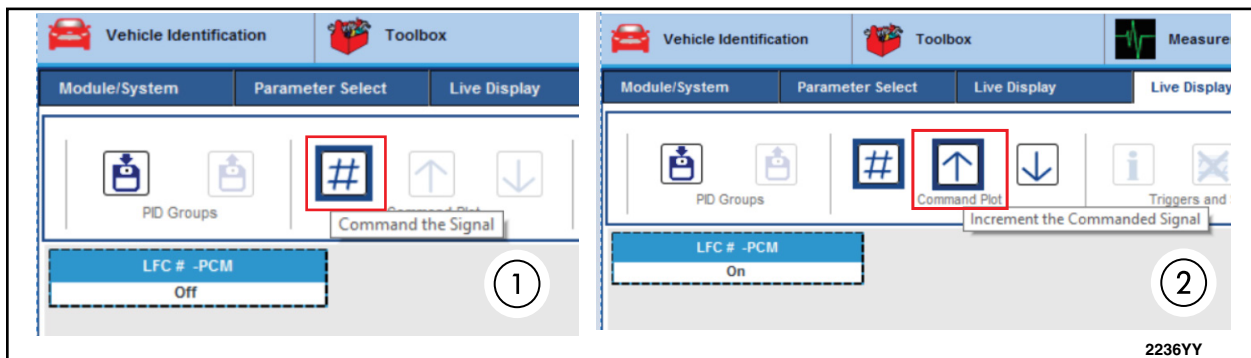

FIGURE 56
78. Select the Command Signal button (#) and then select the arrow point up. See Figure 56.